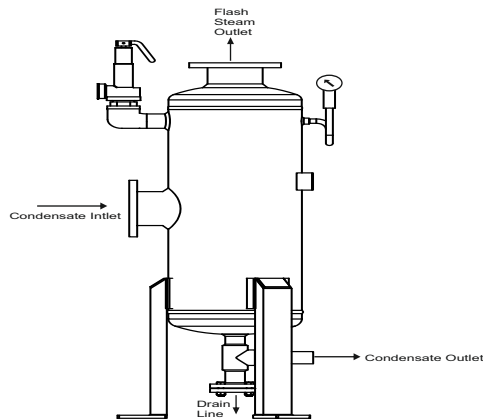

Figure 6: Flushing procedure of Forbes Marshall flash vessel
6.1 Flushing Procedure in the presence of Forbes Marshall Flash Vessel : (Refer Figure 6)